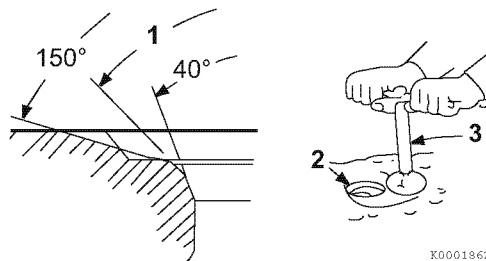

Fig. 14-38
5. Light cutting can be performed by the use of a hand-operated cutter (3, Fig.14-38). The valve seat diameter can be adjusted by top-grinding with a 150° stone to make the seat diameter smaller, and bottom-rinding using a 40° stone to make the seat diameter larger. Once the seat location has been corrected, grind and lap the seat angle to specification (1, Fig. 14-38). For standard value, see 0000-07-01-01 "Cylinder head".